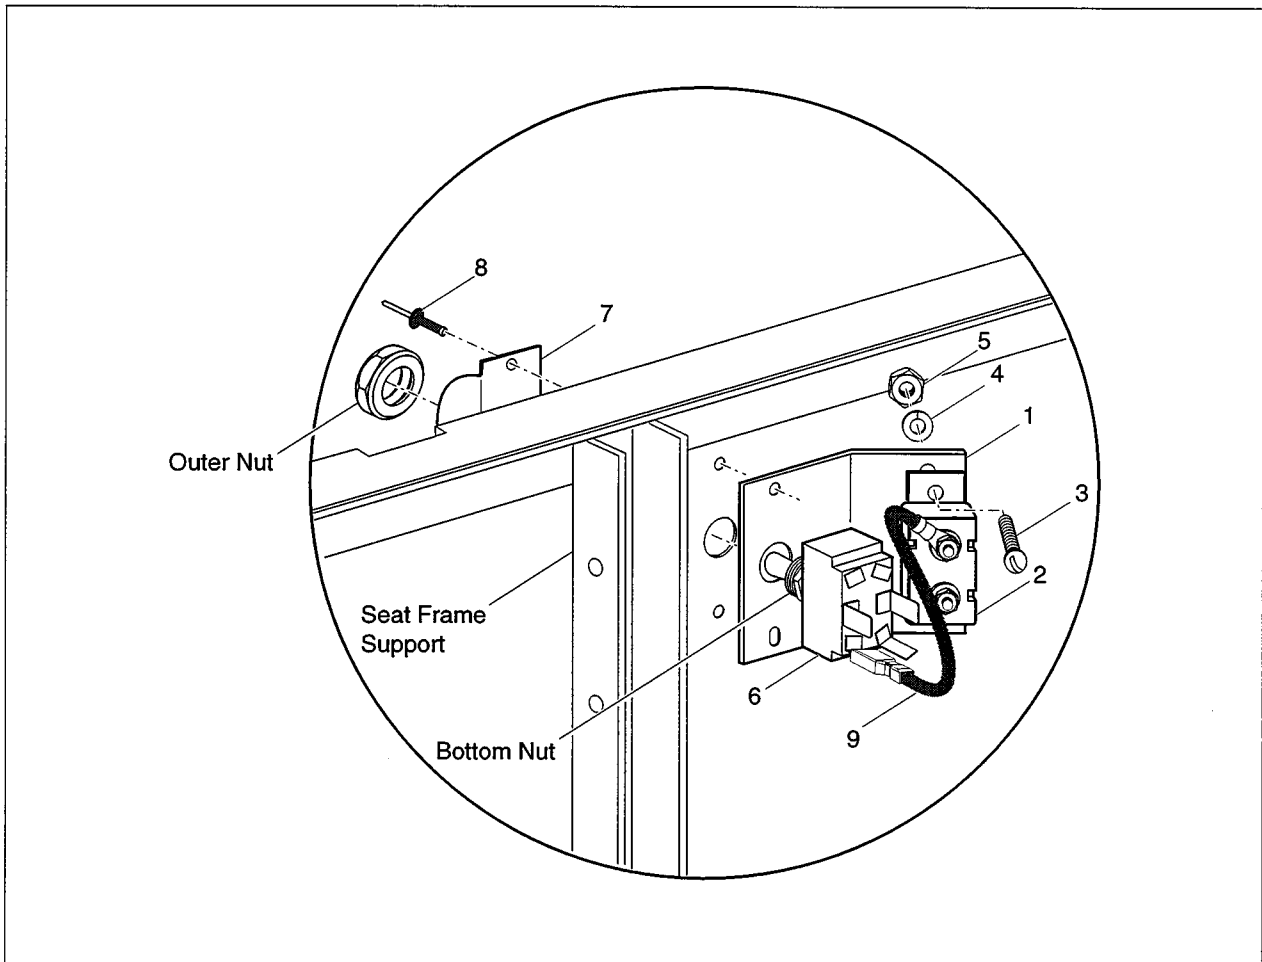

Fig. 4 Toggle Switch Installation
A. TOGGLE SWITCH MOUNTING (See Fig. 4)
2. Remove outer nut from toggle switch (Item 6) and insert the toggle lever through circuit breaker mounting bracket and into the seat wrap hole as illustrated in Fig. 4.
6. Attach red wire (Item 9) to circuit breaker and toggle switch as shown in Fig. 4.